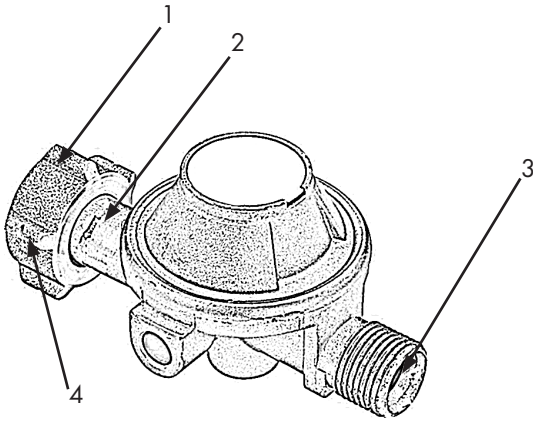

Figure 4: Gas pressure reducer
- Pay attention to the installation direction/flow direction of the gas (2, Fig. 4).
- The seals and threads must be free of dirt or contamination (3, Fig. 4 and 5).
- Tighten the nut (4, Fig. 4) and the threaded nut by hand only.
- Fit the union nut (1, Fig. 4 and 8) of the gas pressure reducer onto the thread of the gas cylinder and tighten the nut with a suitable wrench. Pay attention to the direction of rotation of the arrow shown.